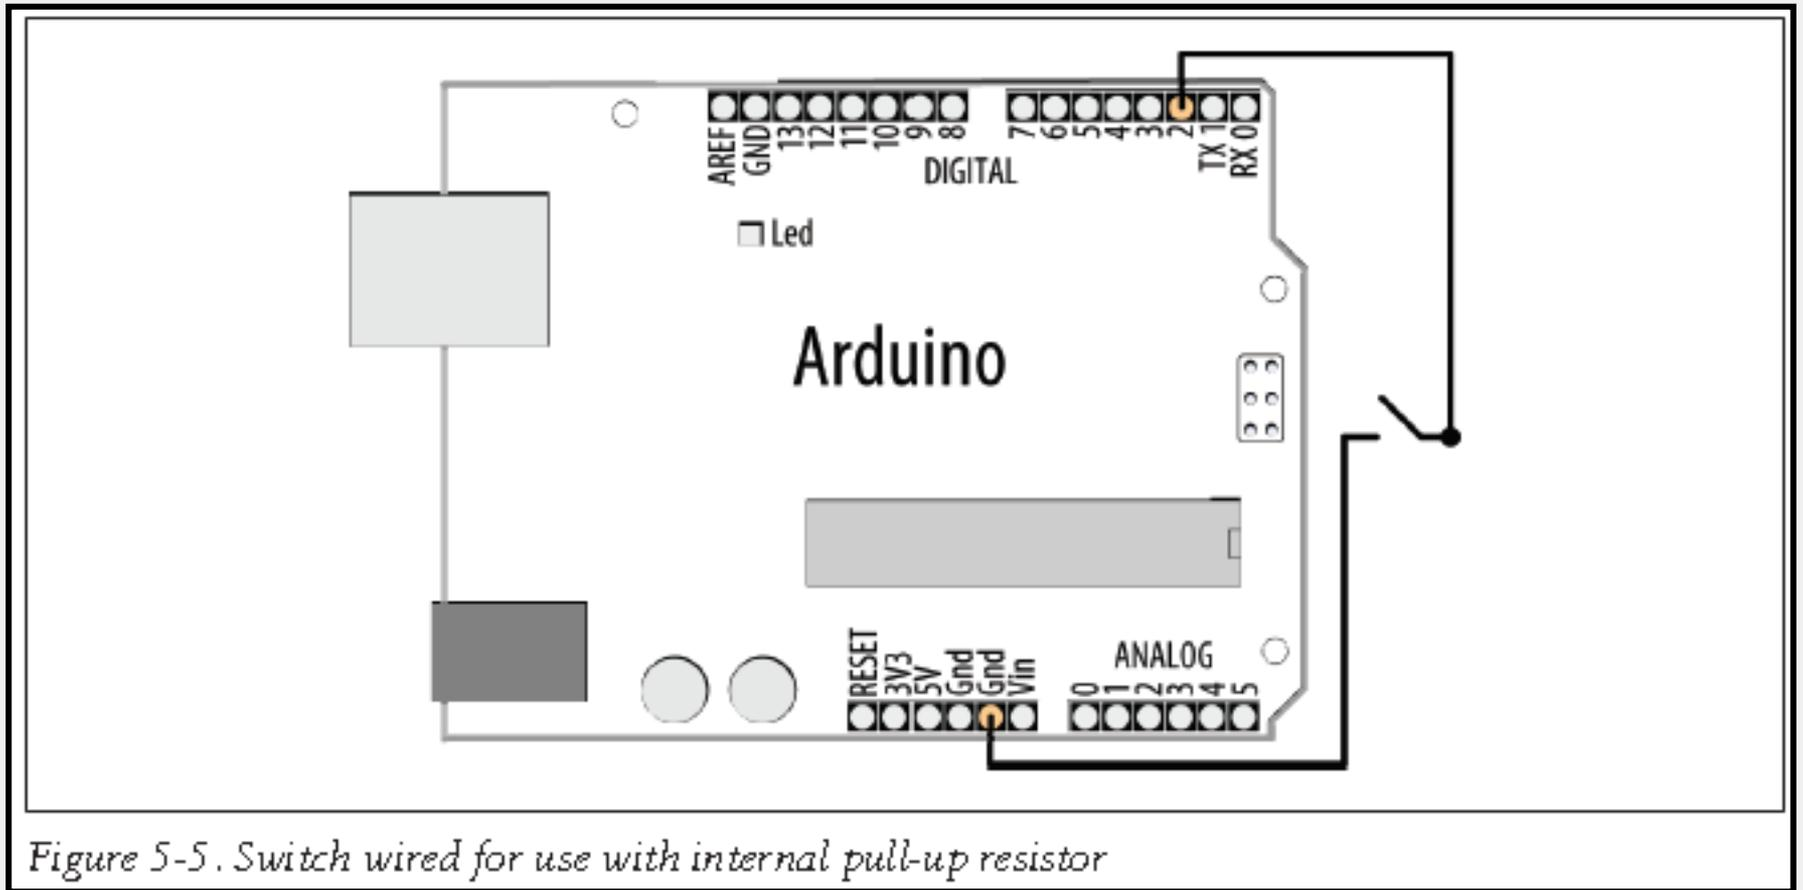

Figure 5-5. Switch wired for use with internal pull-up resistor
- The following sketch demonstrates the setting of a countdown timer. The wiring is the same as in Figure 5-5 from Recipe 5.2. Pressing a switch sets the timer by incrementing the timer count; releasing the switch starts the countdown. The code debounces the switch and accelerates the rate at which the counter increases when the switch is held for longer periods. The timer count is incremented by one when the switch is initially pressed (after debouncing). Holding the switch for more than one second increases the increment rate by four; holding the switch for four seconds increases the rate by ten.